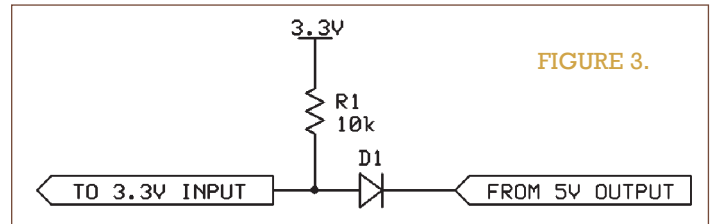

FIGURE 3.
Figure 3 shows how to use a 2N3904 NPN transistor to safely interface to a 3.3V input from a 5V device. As you can see, a pull-up resistor (R2) is required on the 3.3V side. A current limiting resistor (R1) is required on the 5V side. When the 5V output goes high, Q1 will bias pulling the 3.3V side to ground. When the 5V output is low, Q1 is not conducting and R2 pulls the 3.3V side to 3.3V.
The BOB-00718 (Figure 3) from SparkFun was \$14.95 in February '10. Remember to purchase the legs separately.
■ FIGURE 3. SparkFun board BOB-00718.